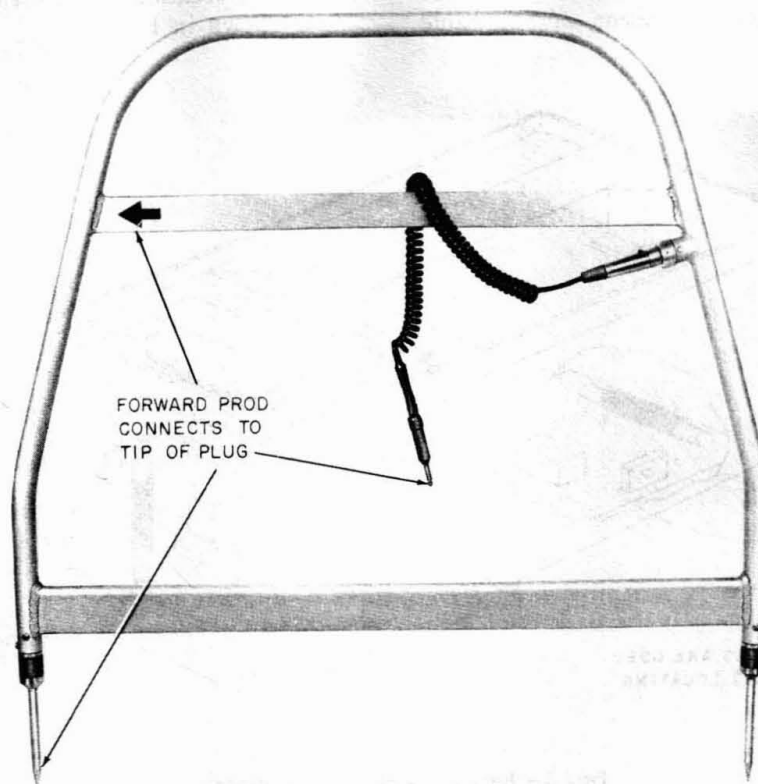

Fig. 6—♦AT-8681 B Ground Probe♦
3.06 The AT-8681 B ground probe (Fig. 6) is not part of the 173A test set. However, this
5.13 The ground probe **must** be held so the cord leading from the frame to the receiver is on the rear portion of the tubular frame (Fig. 6).